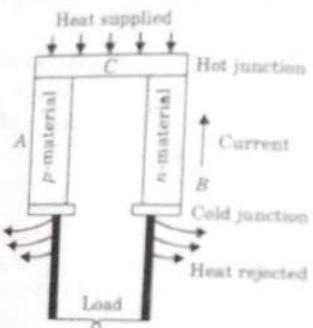

Fig. 4.2.1. Thermoelectric generator.
- Fig. 4.2.1. Efficiency of thermoelectric generator.**
- T_1 = Temperature of source (K),